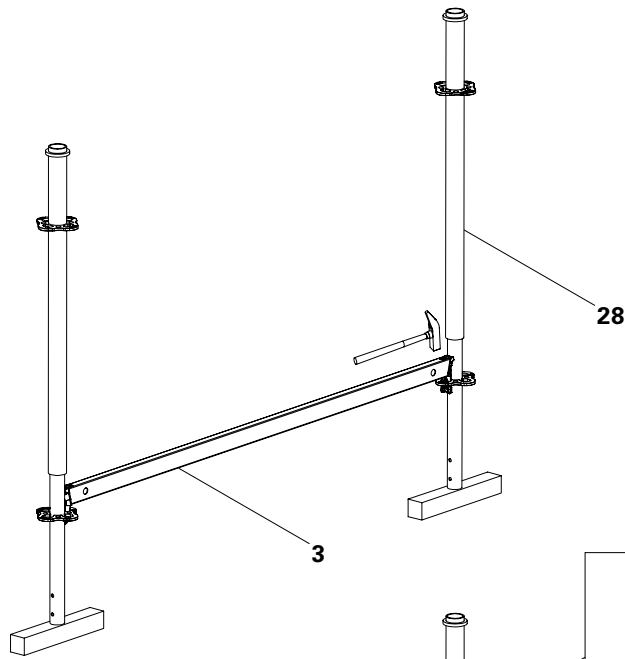

Fig. A3.03
- Place the Top Standards (28) with smaller diameters on timbers and attach Ledgers (3). Securely fix the wedges. (Fig. A3.03)
- Install Shoring Braces (32) crosswise.